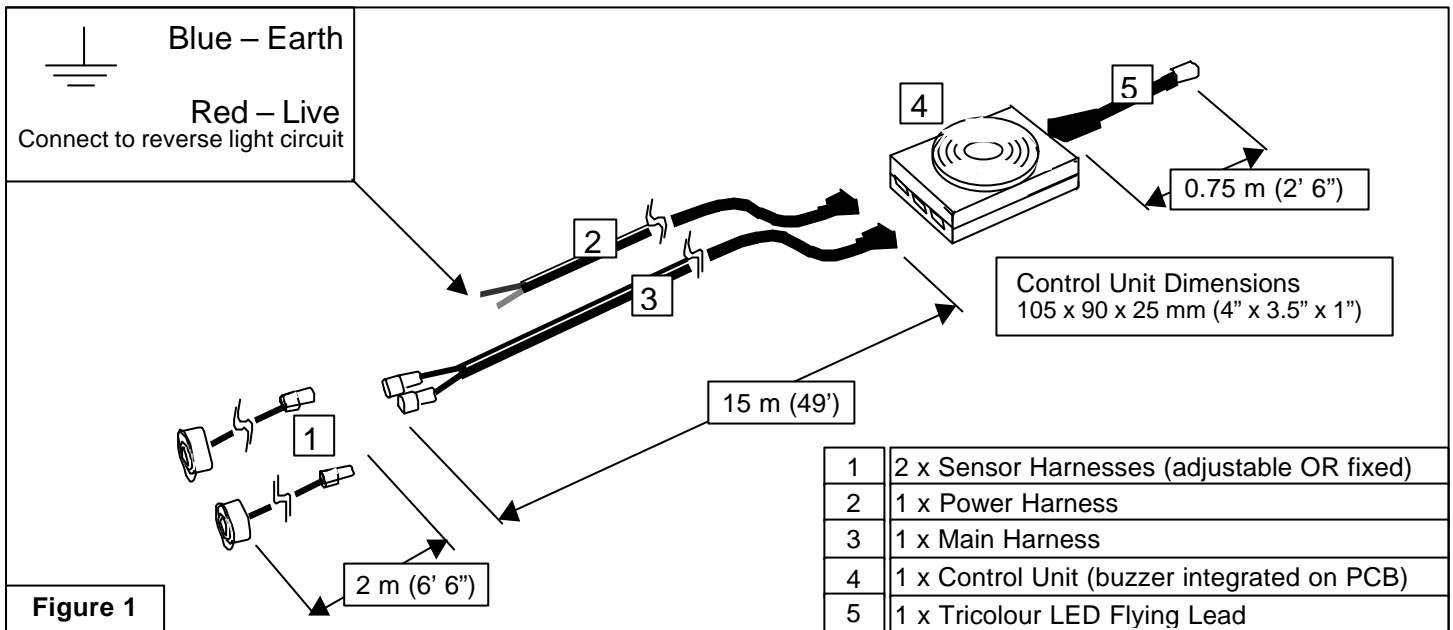

Figure 1
- Connect the other cable harnesses into BackMinder as shown in Figure 1 taking care to ensure the connectors mate correctly.
- Connect the LED flying lead, Power Cable and Main Harness in to the Control Unit as indicated in Figure 1. Ensure that the connectors are mated properly. Ensure that the Power Lead is not connected into the Main Harness plug on the Control Unit.